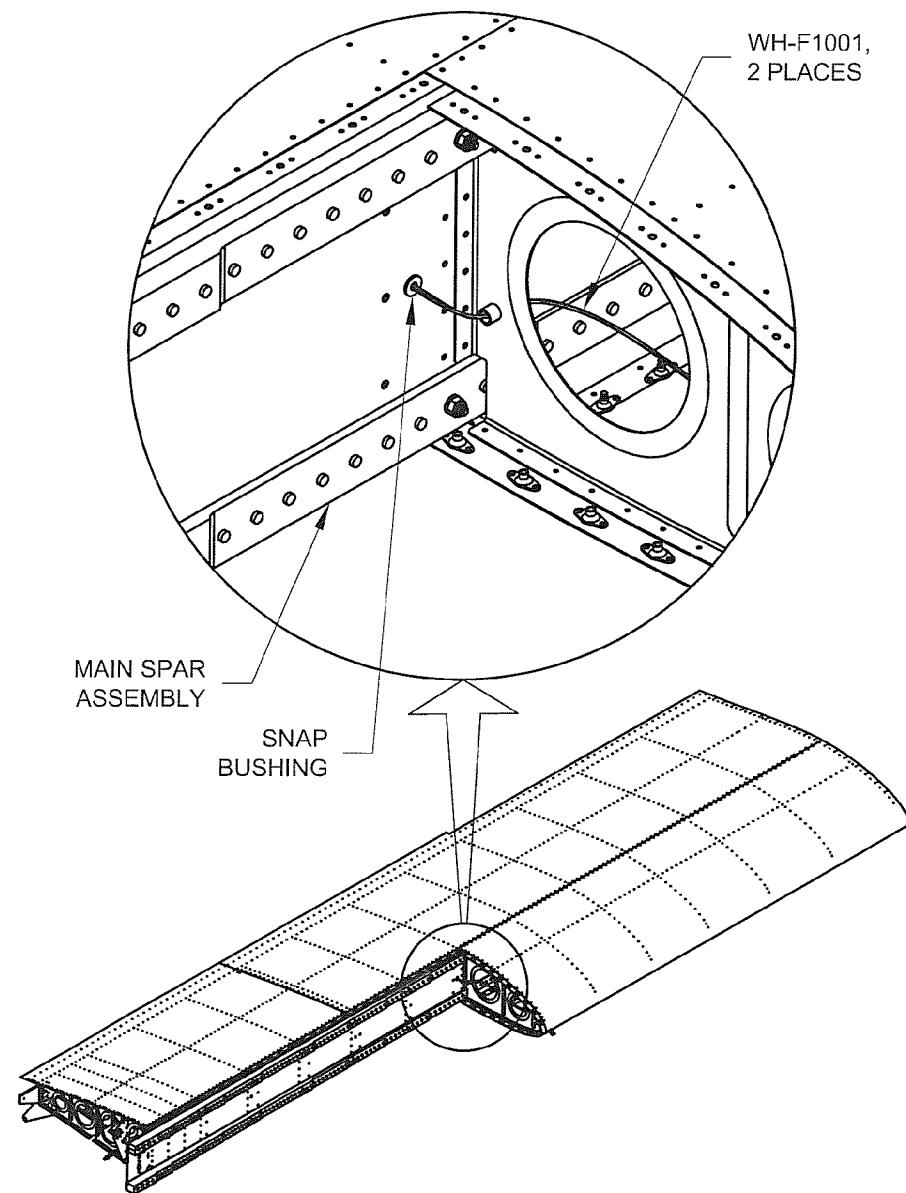

FIGURE 1: ROUTING WIRES THROUGH THE MAIN SPAR
Step 1: Route both WH-F1001 Wires through the snap bushing in the main spar assembly as shown in Figure 1.
Step 1: Position the ES Audio Warn on the upper forward fuselage as shown in Figure 1. Final-Drill #27 the two screw holes in the ES Audio Warn into the upper forward fuselage. Deburr holes. See Figure 1.
Step 2: Install the ES Audio Warn with the hardware shown in Figure 1.